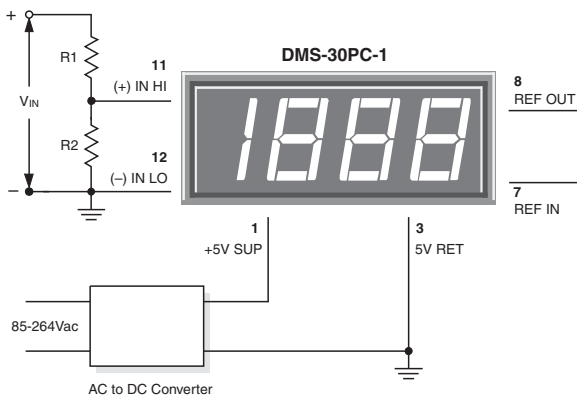

Figure 4. Input Attenuation Circuit
**3. Engineering Scaling:** For measuring voltages greater than the full scale input range of a given meter, the input signal must be attenuated. A simple voltage divider (similar to that shown in Figure 4) will scale the input to within the range of the selected meter. R1 and R2 should be precision,  $\pm 1\%$ , metal-film resistors with absolute TCR's less than 50ppm/°C. See Ap Note 4 for more information on engineering scaling.